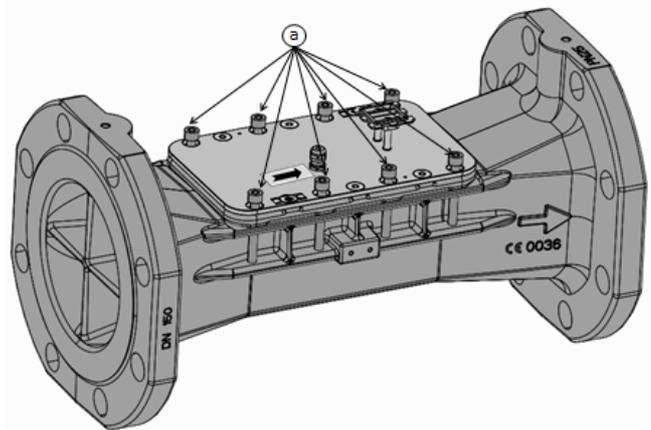
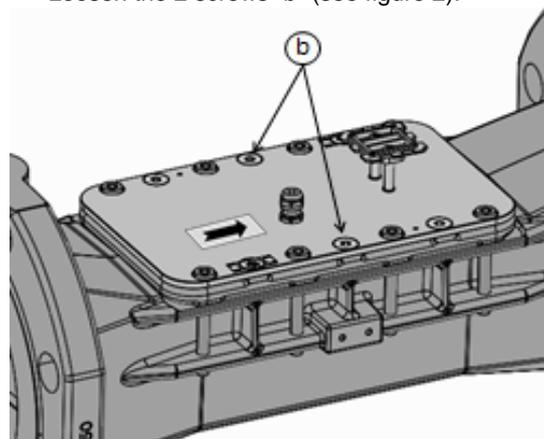

Fig. 1: Screws "a"
Fig. 2: Screws "b"
- Loosen the screws "a" (see figure 1).
- Loosen the 2 screws "b" (see figure 2).
- Screw in the 8 screws "a" (see figure 1) with 35 Nm.
**Warning:** All screws "a" (see figure 1) and "b" (see figure 2) must be screwed.